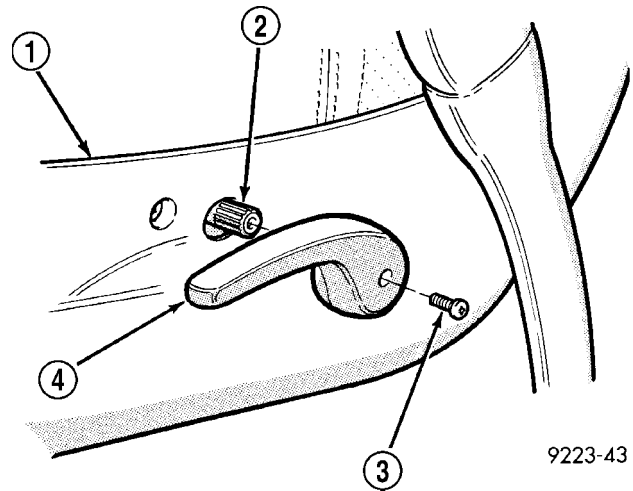

Fig. 20 RECLINER HANDLE - MANUAL
- (3) Remove grille from front fascia (Fig. 20). Using care and depress push pin(s) fasteners to release the grille.
- (1) Remove screw holding recliner handle to recliner spline shaft (Fig. 20).
- (2) Remove recliner handle from spline shaft.
- (1) Place recliner handle in position on spline shaft.
- (2) Install screw to hold recliner handle to recliner spline shaft (Fig. 20).